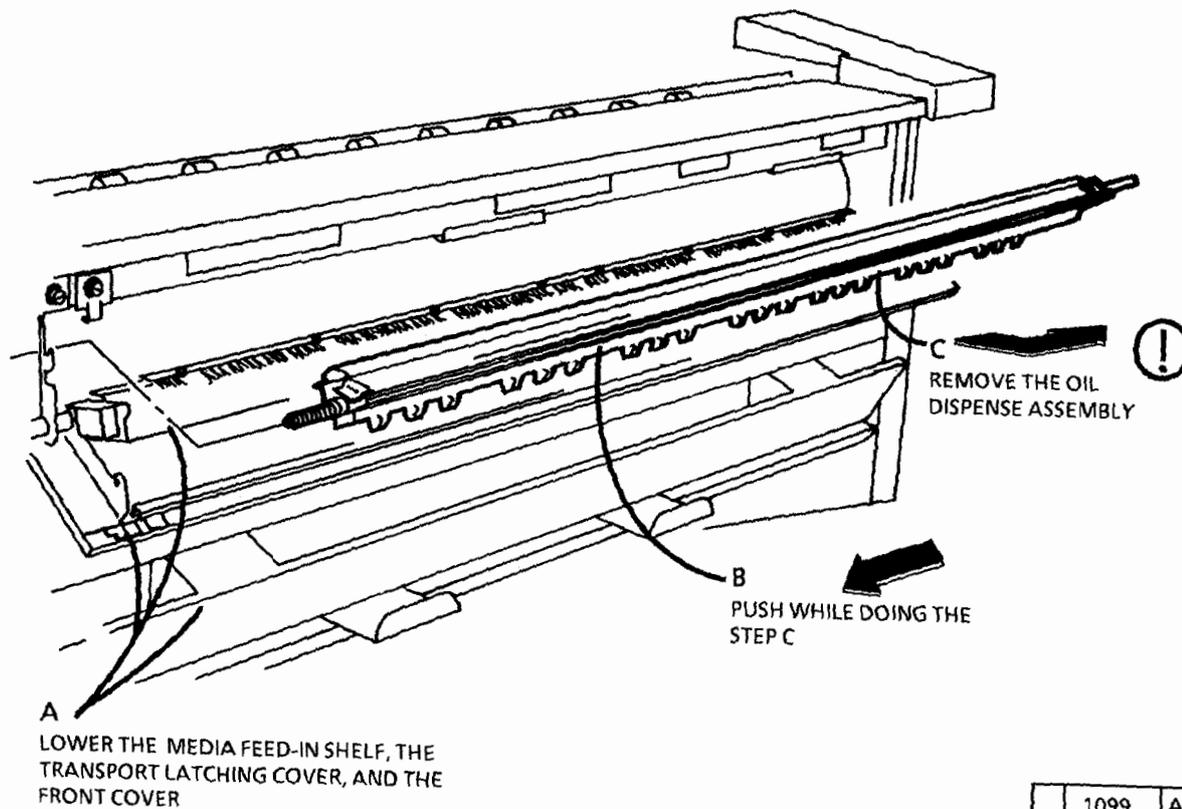

Figure 1. Remove the Oil Dispense Assembly
3. (FIGURE 1): REMOVE THE OIL DISPENSE ASSEMBLY.